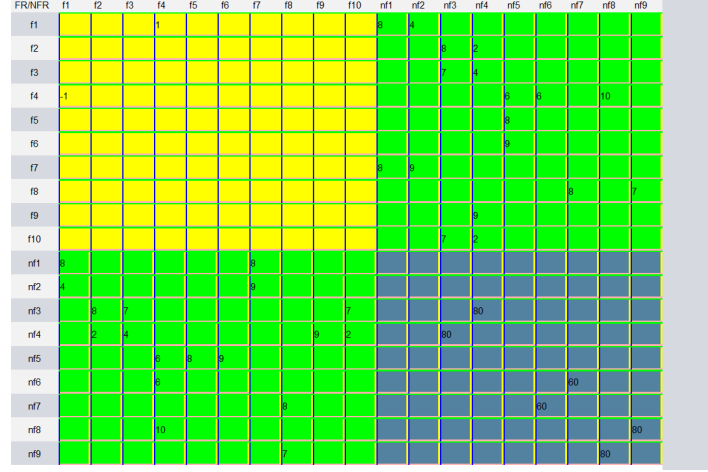

Figure 6: Data Loaded
- (c) Figure 6 shows the data sets that are loaded in the tool.